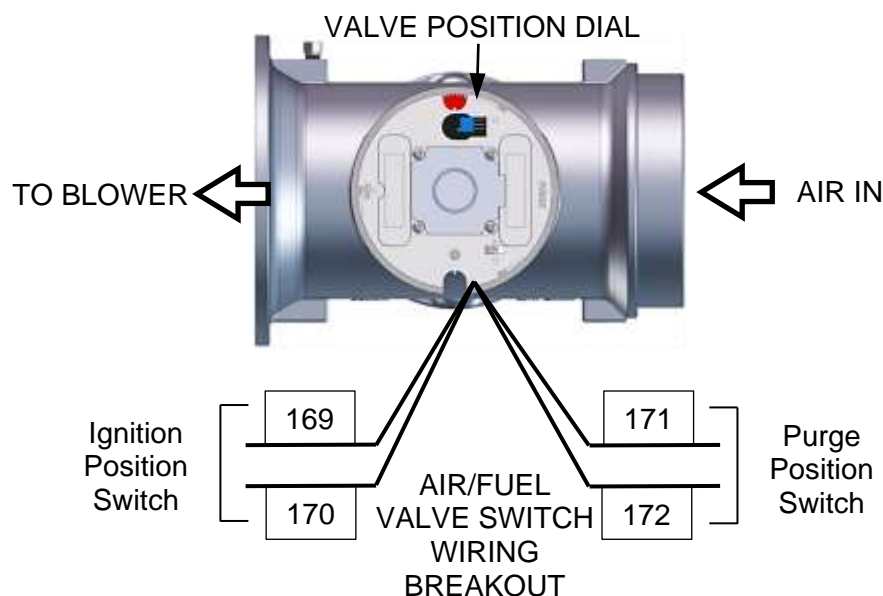

Figure 5.11-2: Air/Fuel Valve Purge and Ignition Switch Locations
4. Remove one of the two wires (#171 or #172) from the **Purge** switch (Figure 5.11-2).
- Remove one of the two wires (#169 or #170) from the **Ignition** switch (Figure 5.11-2).